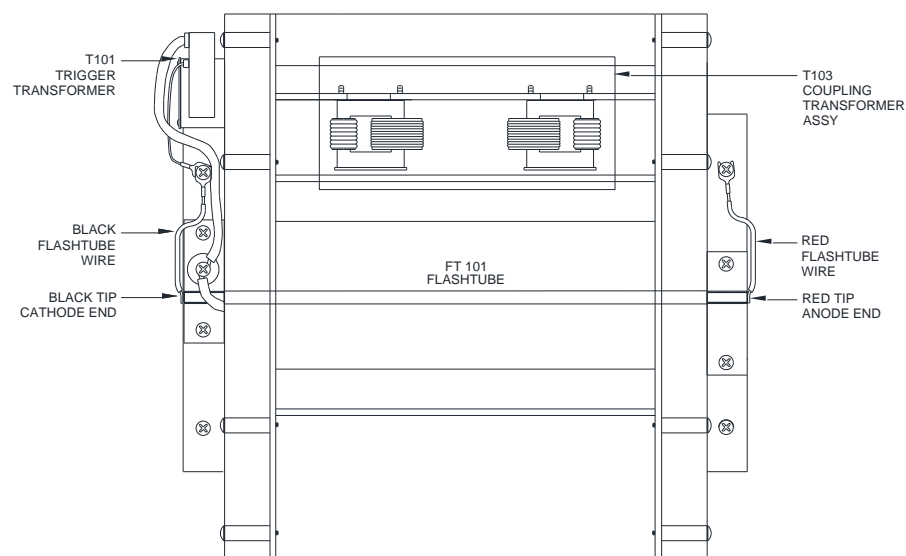

Figure 4-3 – FH 204 FTB 205/208 Optical Assembly Component Locations
8. Attach the black cathode wire of the flashtube to the screw on the upper end of the plate on the left side of the optical assembly as viewed in Figure 4-3.
Table 4-2 lists the part numbers for the major replaceable parts in the flashhead / optical assembly. Figure 4-3 shows the component locations for all versions.